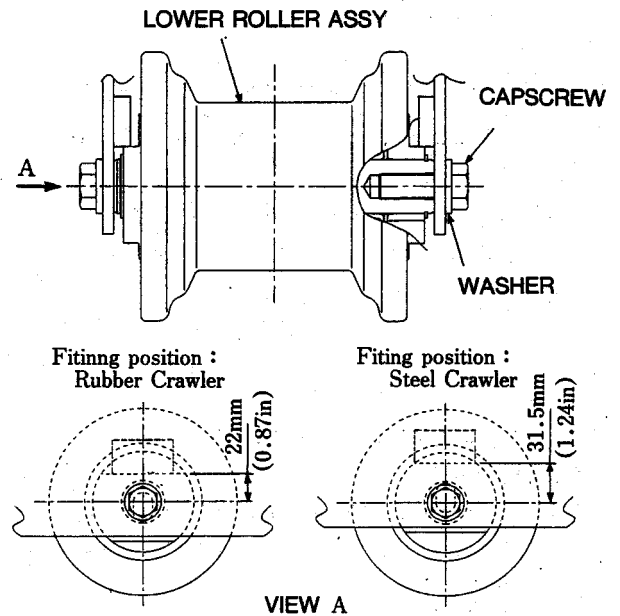

Fig. 32 Lower roller assy
• Refer to Fig.32 for the fitting position depending on the kind of crawler.
- 2) Lower the machine in full contact with the ground and tighten the capscrews (2).